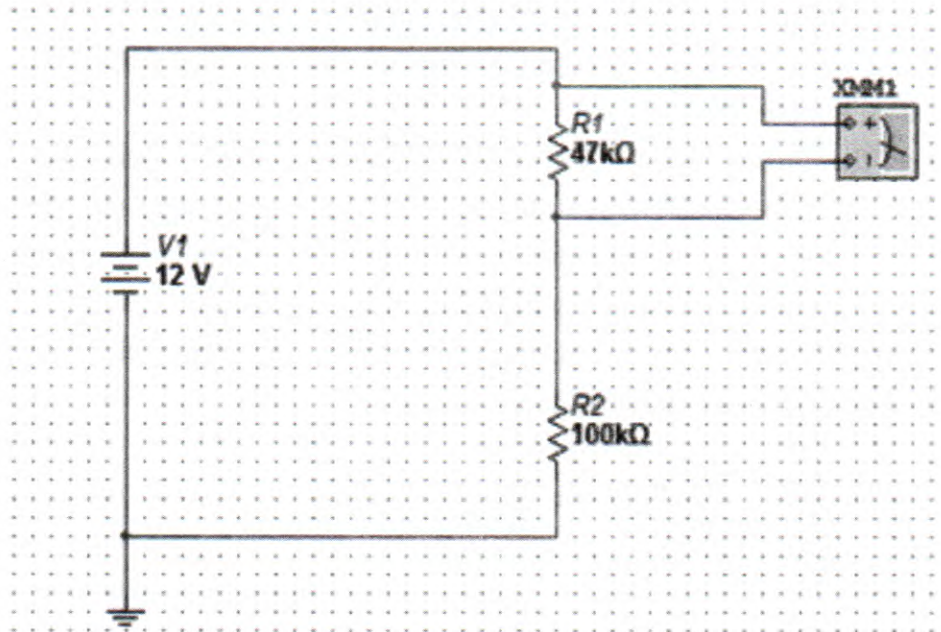

Figure 1.1: Voltage Measurement Circuit
1. In Figure 1.1, calculate the expected value of the voltmeter reading.
- ii. Connect the circuit shown in Figure 1.1 on the breadboard, measure and record the voltage drop across the $47\text{K}\Omega$ resistor using the digital multimeter set to the range that will allow you to obtain the maximum digits after the decimal point.